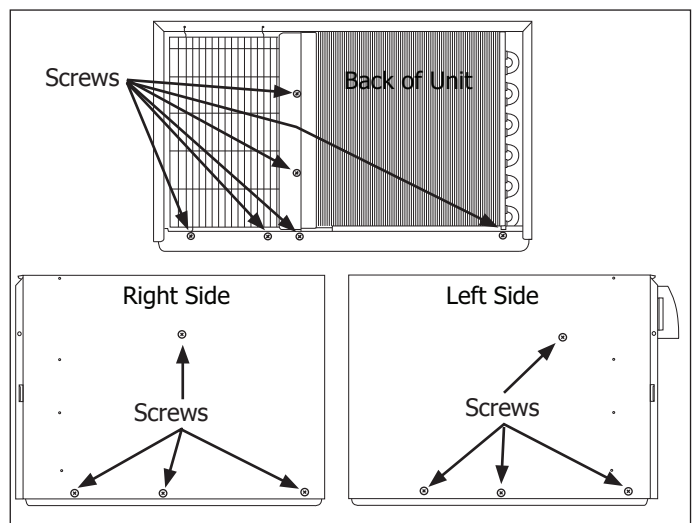

Figure 4-56.
3. Extract the screws from each side of unit. Extract the screws securing the fan guard and cabinet wrapper/sleeve to the back of the unit. Remove fan guard from back of unit. (See Figure 4-56)